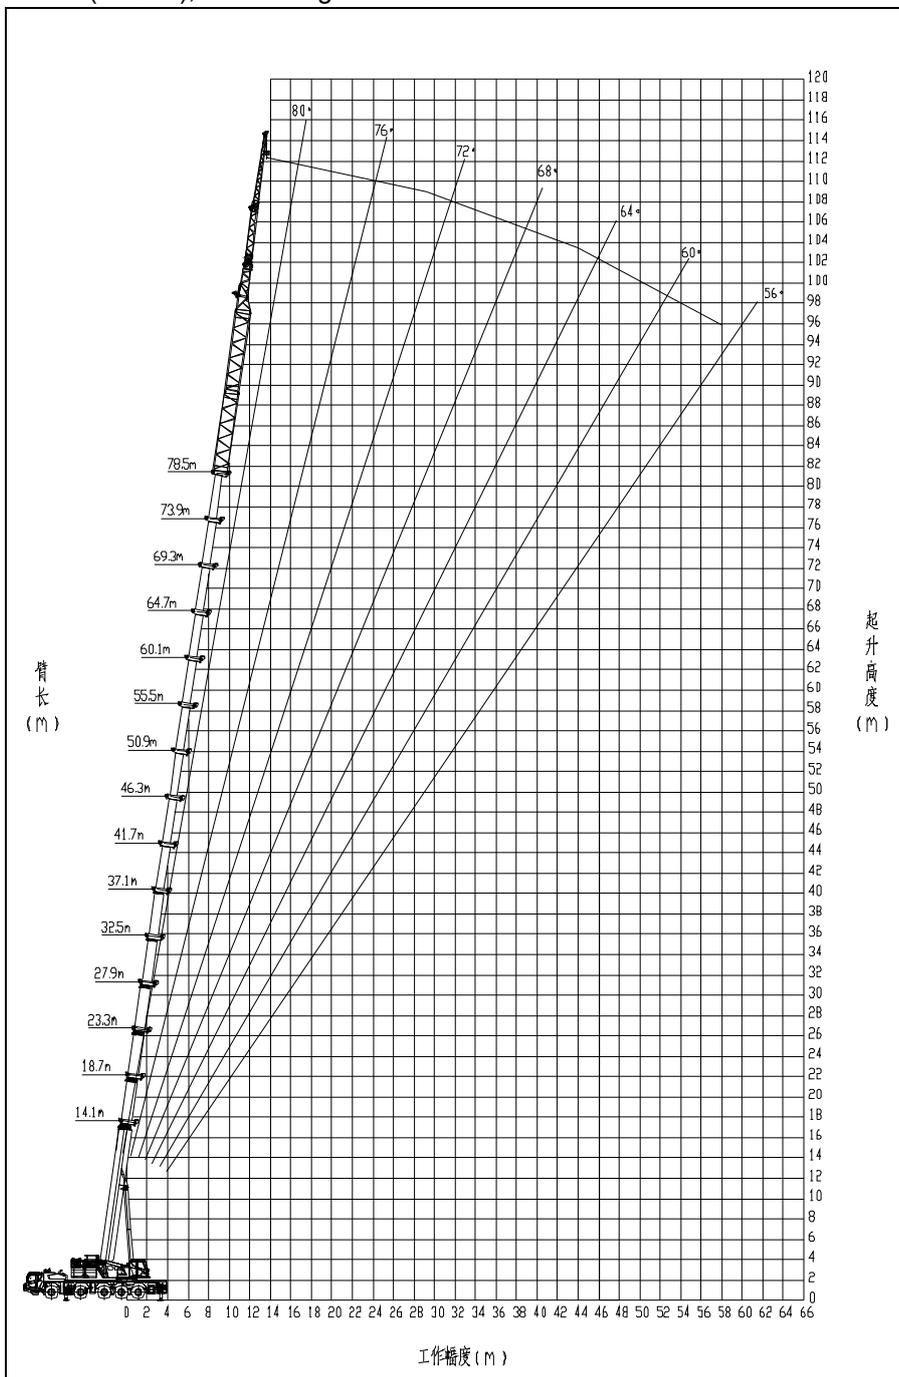

Figure 1-23 78.5 m main boom + 8 m extension 1 + 8 m extension 2 + jib variant 2 (17.5 m)
- b) For the lifting height chart for 78.5 m main boom + 8 m extension 1 + 8 m extension 2 + jib variant 2 (17.5 m), refer to Figure 1-23.